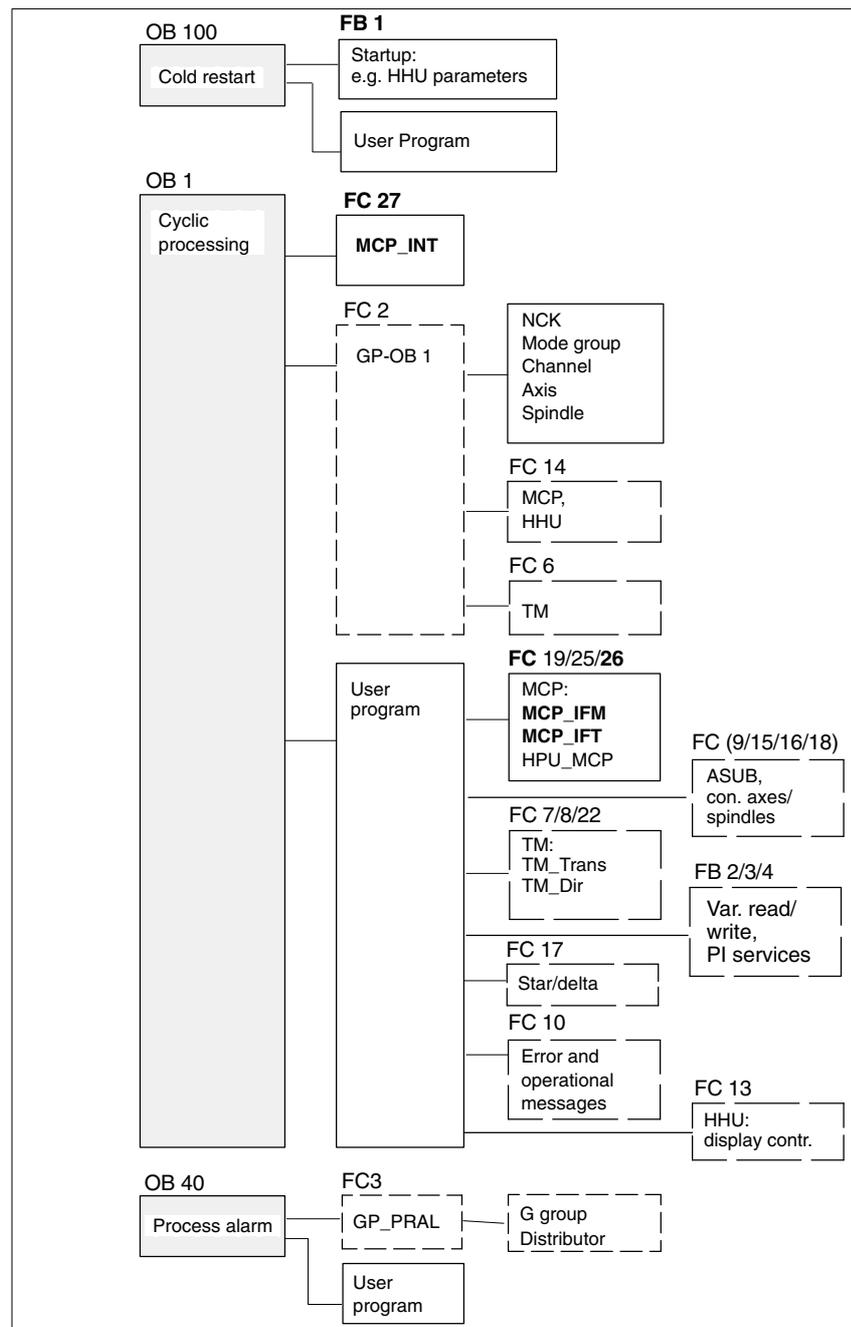

Fig. 7-20 Structure of the PLC program
The user (machine manufacturer) must call the relevant part of the basic program in the OBs 1, 40 and 100, as shown in Fig. 7-20.
4. Insert call of function block FC 26 into the cyclic parts of the PLC program (see Fig. 7-20, Page 7-184).